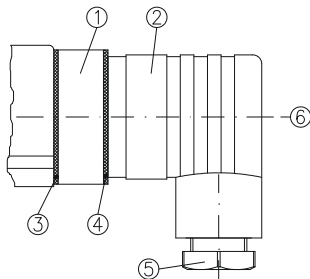

Fig. 5.2.1
- ↪ Loosen the central screw ⑥ M3x35 and disconnect the cable socket ② from the connector ① (→ Fig. 5.2.1). Pull the central screw ⑥ out of the cable socket ②.